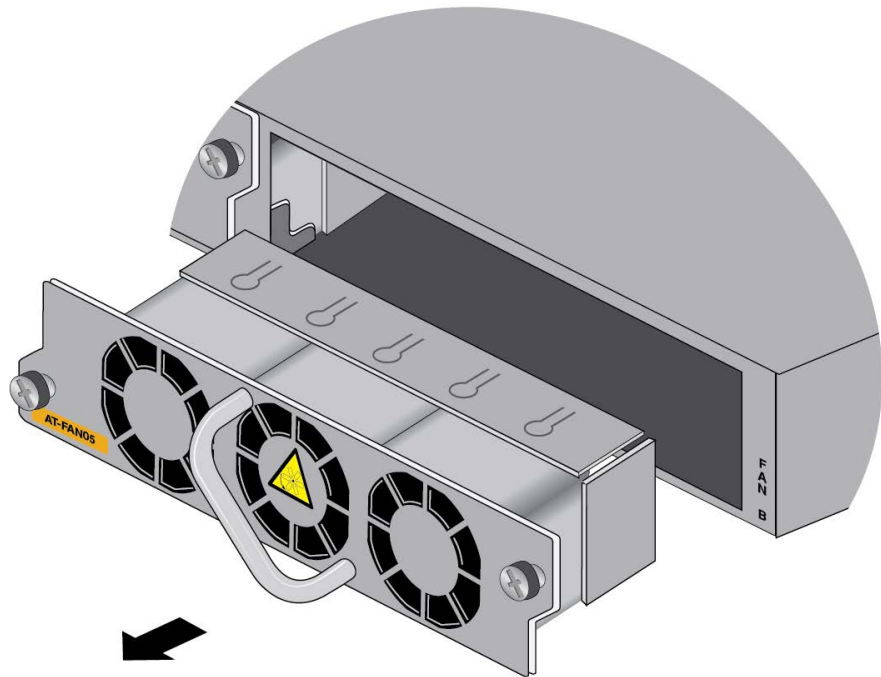

Figure 142. Sliding the Fan Module from the Switch
3. Slide the fan module out of the switch. Refer to Figure 142.